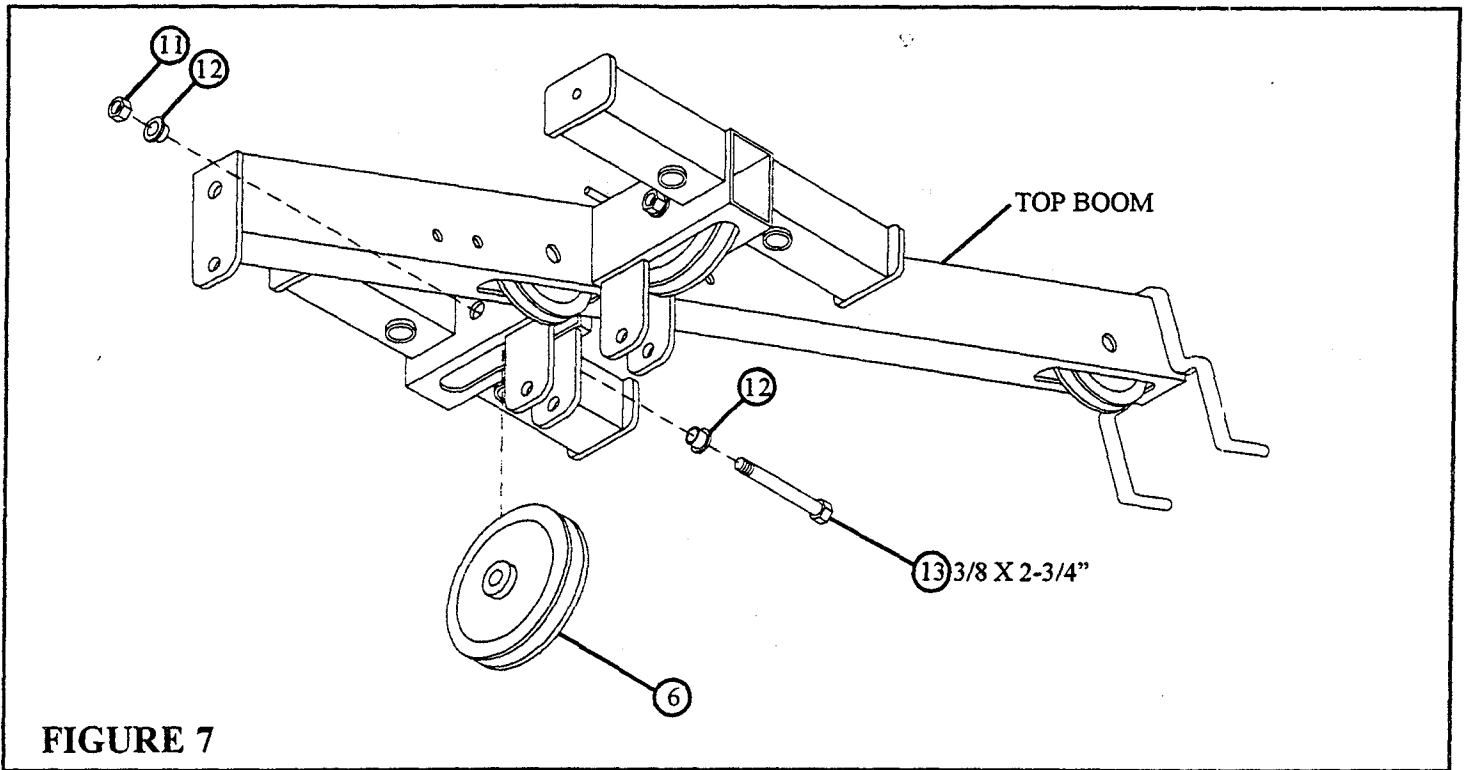

FIGURE 7
- **LOOSELY** assemble one 4-1/2" PULLEY (6) to the TOP BOOM using one 3/8 X 2-3/4" BOLT (13), two 3/8" FLANGE SPACERS (12), and one 3/8" LOCK NUT (11). See FIGURE 7.